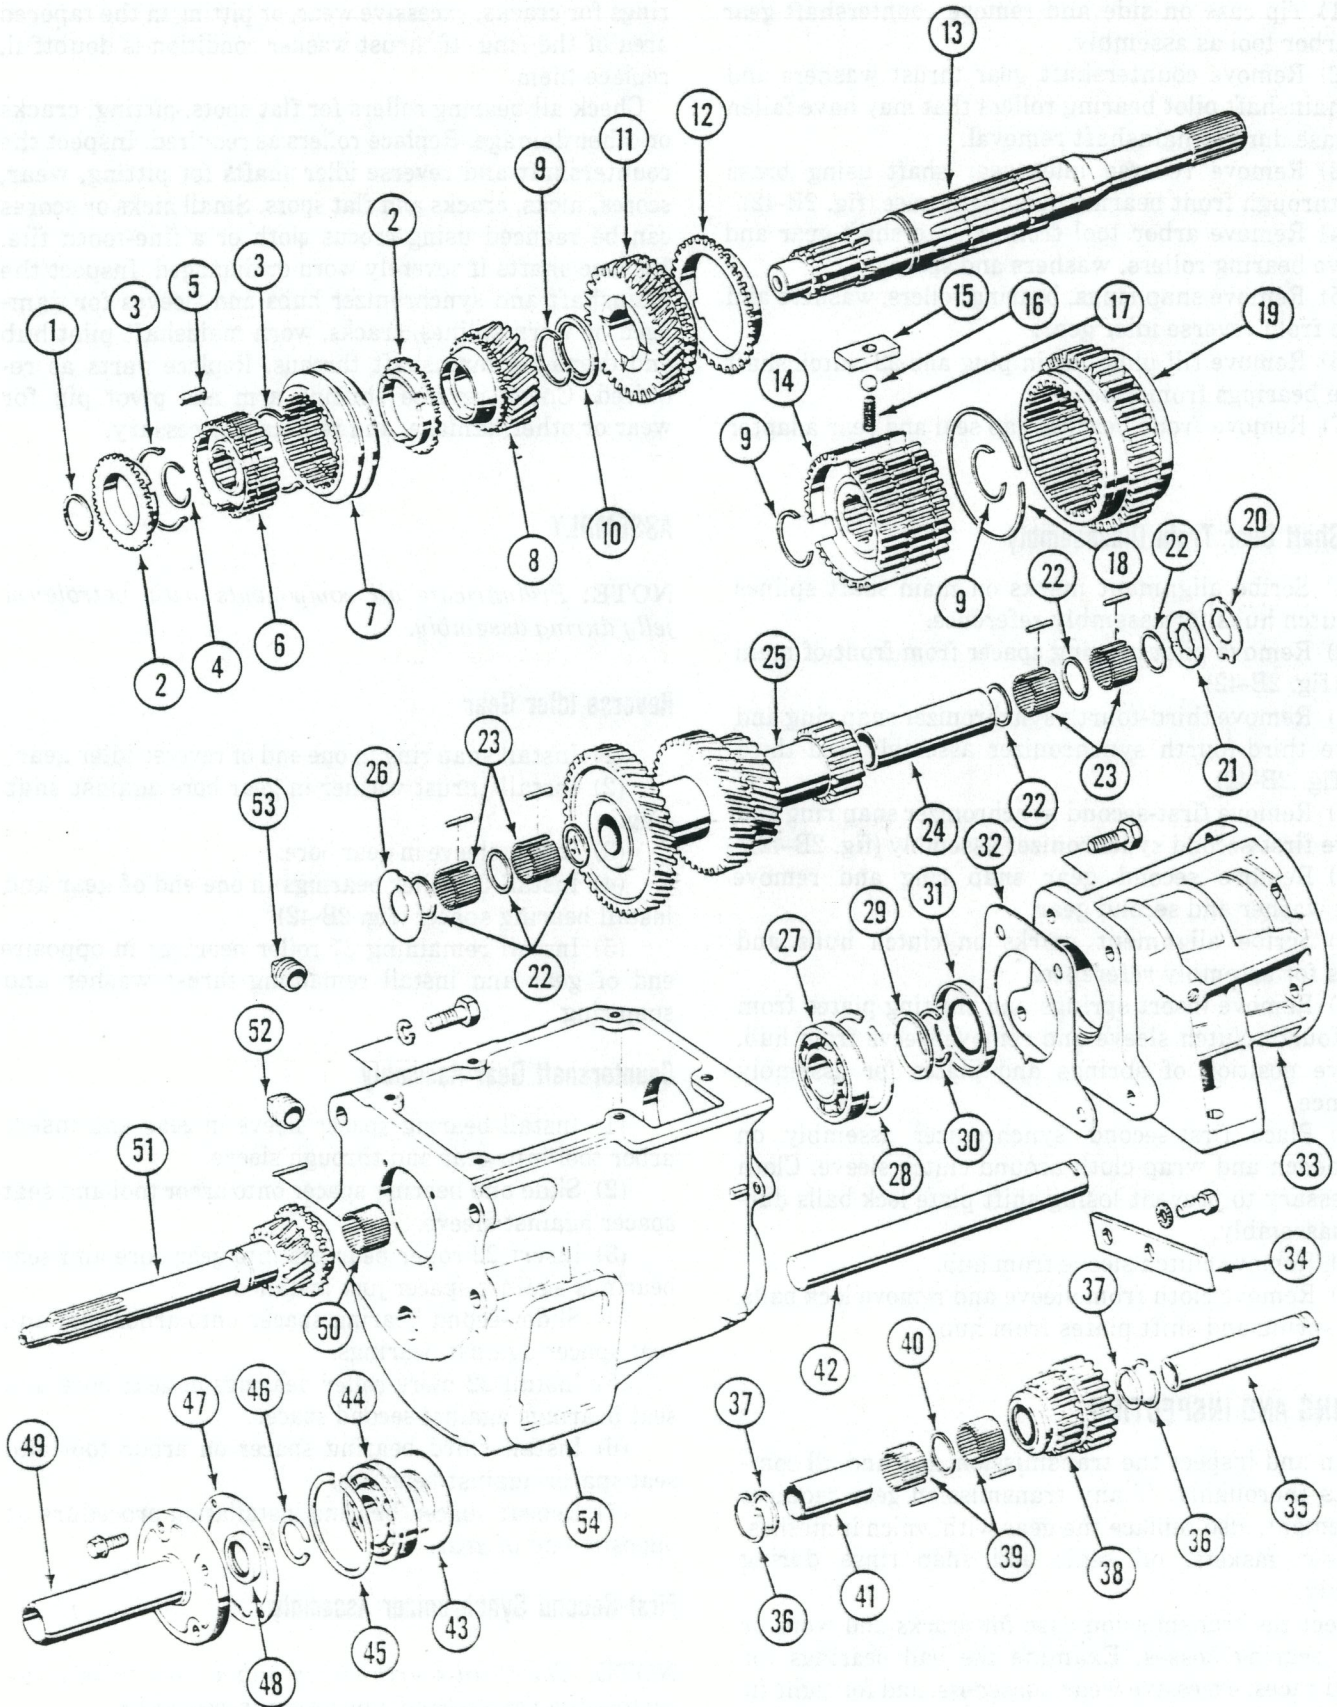

Fig. 2B-42 Model T-18A 4-Speed Transmission
- (1) Install snap ring in one end of reverse idler gear.
- (2) Install thrust washer in gear bore against snap ring.
- (3) Insert sleeve in gear bore.
- (4) Install 37 roller bearings in one end of gear and install bearing spacer (fig. 2B-42).
- (5) Install remaining 37 roller bearings in opposite end of gear and install remaining thrust washer and snap ring.